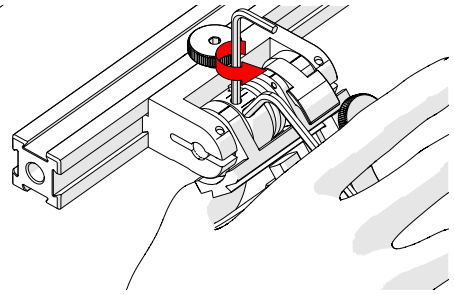

Fig. 161 - Press 3 mm hex wrench down
5. Lightly press the long arm of the 3 mm hex wrench down. Using the 2 mm hex wrench, loosen the force adjustment screw but do not remove it (Fig. 161).